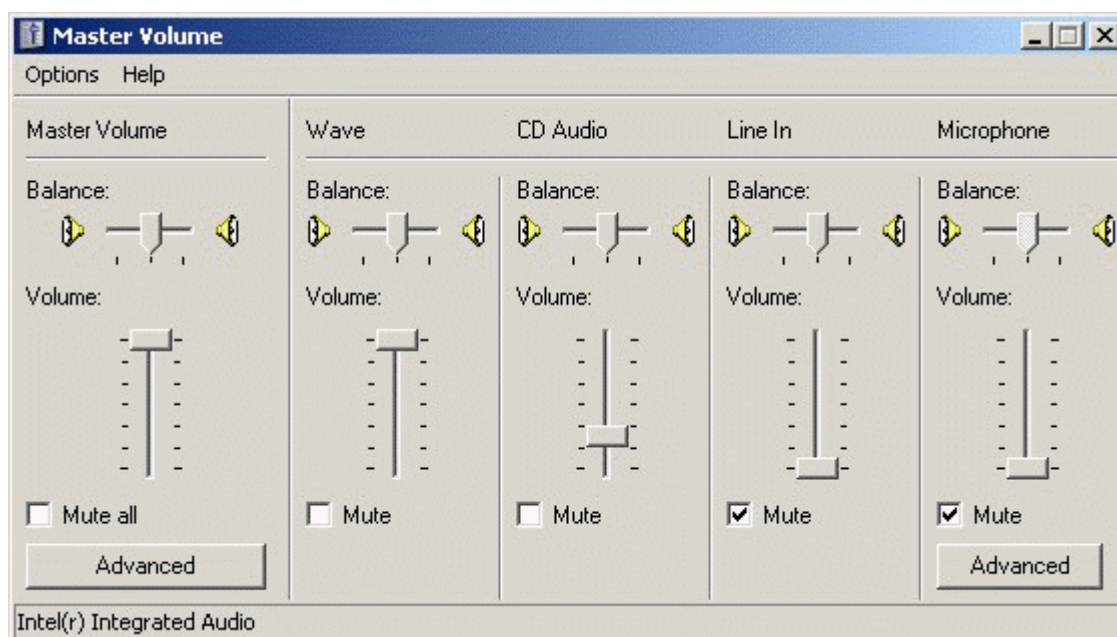

Figure 4.8 Typical setup of a soundcard output mixer in Windows XP
1. In 'Audio device setup' dialog click the button 'Control panel' to open the Windows 'Master Volume' dialog box, which is shown on Fig. 4.8.
3. Mute Line In and Mic channels in dialog 'Master Volume' (Fig. 4.8)